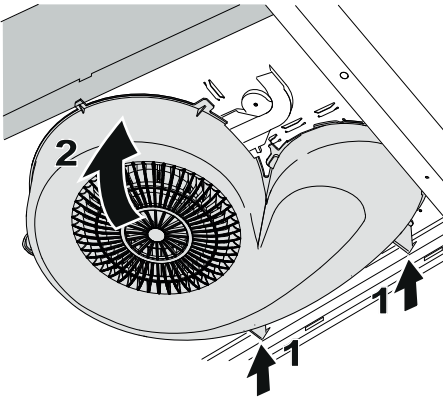

Fig. 7
Refit the fan housing by inserting the supports in the rear of the fan (1). Bend up the fan housing (2).Fig. 7